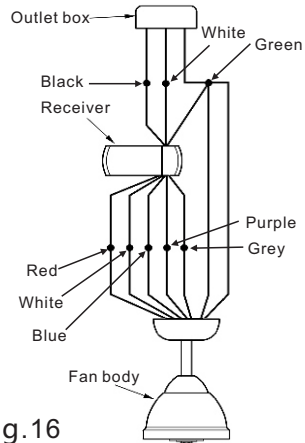

Fig.16
Step 2: Motor to Receiver electrical connections: connect the WHITE WIRE from the fan to the WHITE wire from receiver. Connect the RED wire from the fan to the RED wire from the Receiver. Connector the BLUE wire from the fan to the BLUE wire from the receiver. connect the PURPLE wire from the fan to the PURPLE wire from the receiver. Connect the GREY wire from the fan to the GREY wire from the receiver.(Fig.16)
Step 3: If your outlet box has a GROUND wire (Green or Bare Copper) connect this wire to the Hanger Ball and Hanger Bracket Ground wires. If your outlet box does not have a Ground Wire ,then connect the Hanger Ball and Hanger Bracket Ground Wires together. Secure wire connection with the plastic wire nut provided.(Fig.16)
Step 4: Receiver to House Supply Wires Electrical connections: Connect the WHITE wire from the outlet box to the WHITE wire from the receiver. Connect the BLACK wire from the outlet box to the BLACK wire from the receiver. Secure all wire connections with the plastic wire nuts provided. After all splices are made, check to make sure there are no loose strands. As an additional precaution we suggest to secure the plastic wire connectors to the wires with electrical tape.(Fig.16)